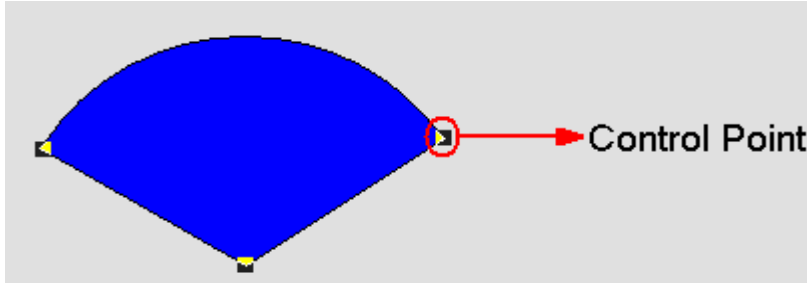

Figure 3-2 Change the shape of pie
1. Build a pie, right-click the graphics and select "Change Shape" in the right-click menu, and three control points will appear at the vertexes of the pie, as shown in Figure 3-2.